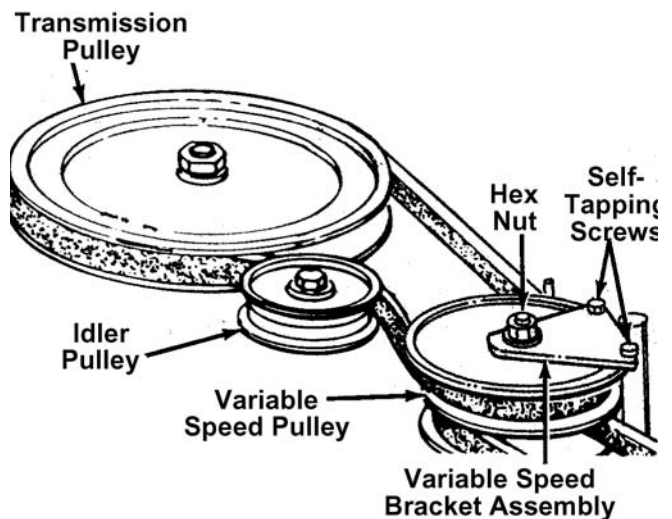

Figure 7-43. Front Drive Belt Removal
4. Push the idler pulley toward the right side of the unit. Lift the belt over the idler pulley. See Figure 7-43